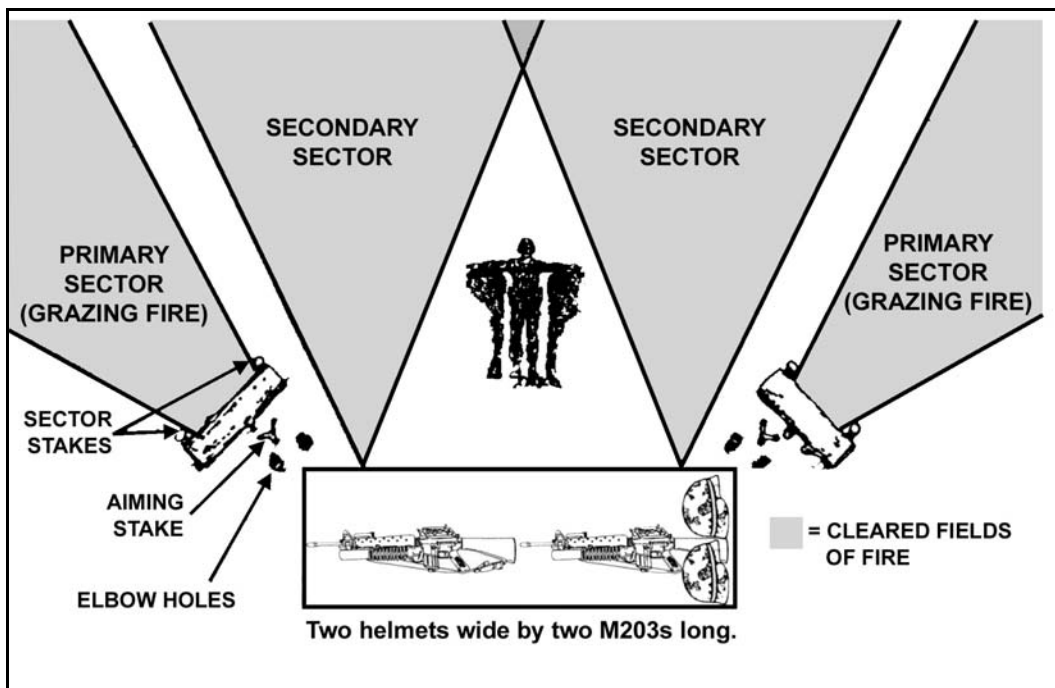

Figure D-11. Stage 1, Preparation of a fighting position.
- Emplace sector stakes (Figure D-11).